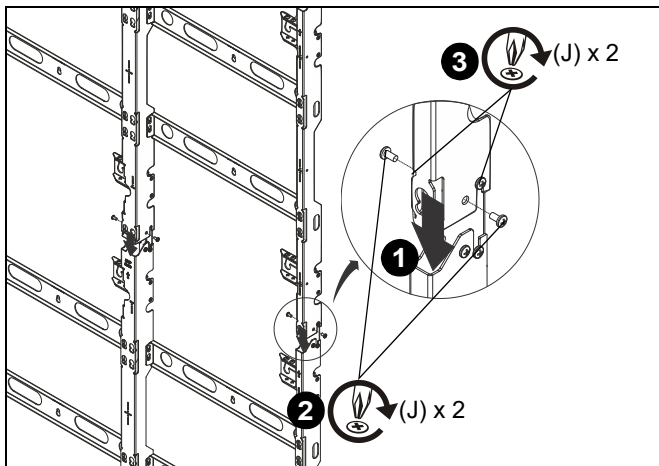
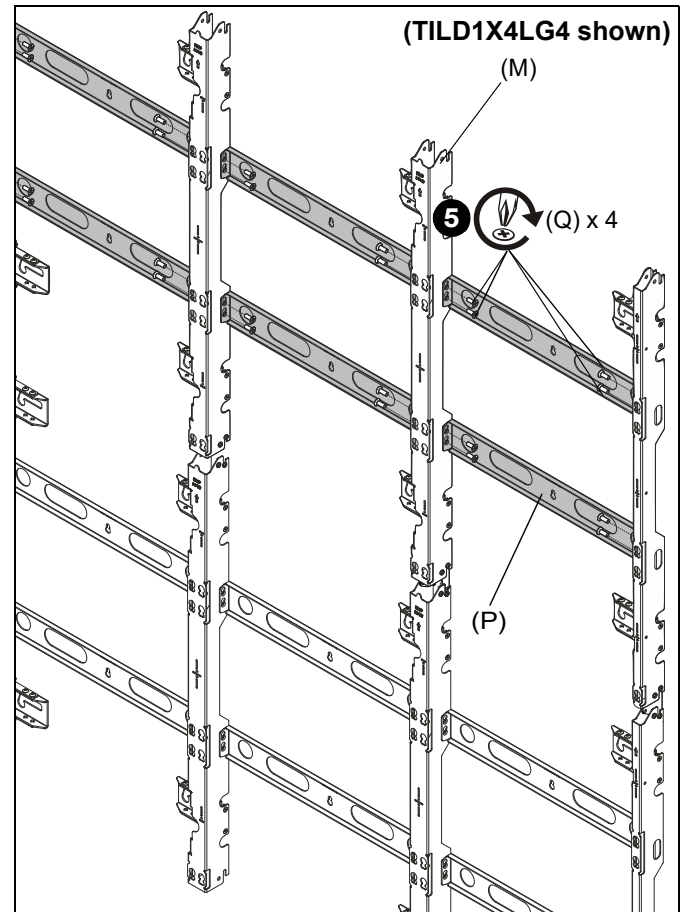

Figure 18
Figure 19
1. Lower additional uprights (L, M or N) onto installed uprights, placing grooves at bottom of uprights over partially installed screws (J) on connector kit. (See Figure 18)
2. Install remaining 1/4-20 x 1/2" Phillips pan machine screws (J) into hole above partially installed screws. (See Figure 18)
3. Tighten partially installed screw (J) to secure additional upright to existing upright. (See Figure 18)
**NOTE:** Add uprights (M) or (N) one by one from left to right as the mounting system is being built on the wall.
4. Position spacer plate (P) between uprights (L, M or N) middle upright (M) between mounting holes. (See Figure 19)
5. Use four 1/4-20 x 1/2" Phillips flathead screws (Q) to secure uprights (L, M or N) to each other. (See Figure 19)